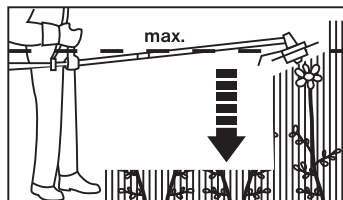

Fig. 18
- 4). Never hold the cutting head higher than your hip; the higher you hold the cutting head will increase the risk of objects being thrown. (See Fig. 18)